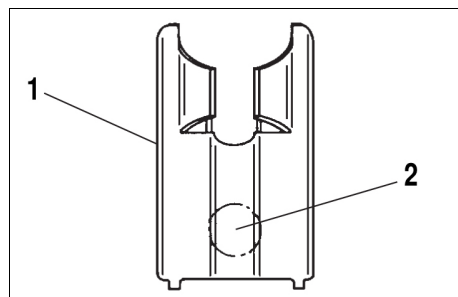

Fig. 5: Codification Clip
The clip (1) is identified by a colored dot or stripe on the crown of the clip (Fig. 5).